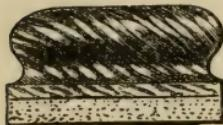
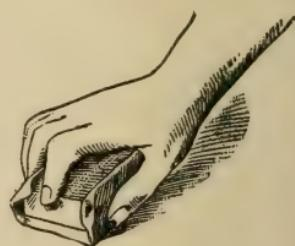

FIG. 73
FIG. 74
**How to Use Sandpaper.**—For properly using sandpaper a rubber is needed. A piece of mahogany or clean pine,  $5\frac{3}{4}$  in. by 3 in. by 1 in., shaped as in Fig. 73, answers well if a piece of sheet cork is glued on the face as shown. Fold a piece of sandpaper, 6 in. wide and about 10 in. long, into three, place it sand side downwards, and put the face of the rubber on the middle division. Grasp the rubber so that the ends of the sandpaper are held firmly on its back and sides (see Fig. 74), and work then can be commenced.